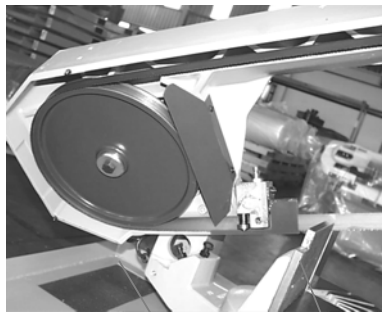

Fig.8 A
1. Raise the saw frame about 6" and close the feed on/off knob by turning it clockwise as far as it will go (fig 8).